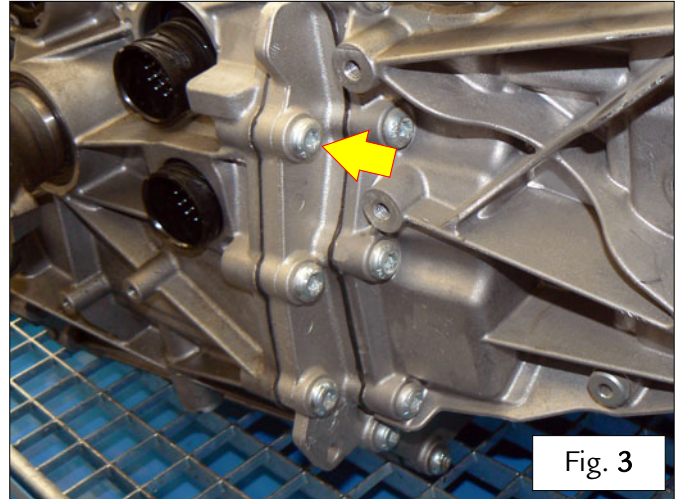

Fig. 3
- On the left hand side of the DCT gearbox, undo and remove the indicated screw – Fig. 3.
➤ Undo the indicated screws fastening the adapter – Fig. 3.